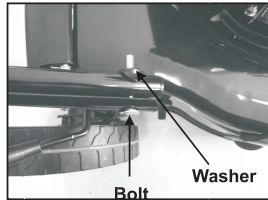

Fig.2A
1. Fix the lower handlebars into the unit body with bolts, washers and locking knobs. (Fig. 2A /Fig.2B)